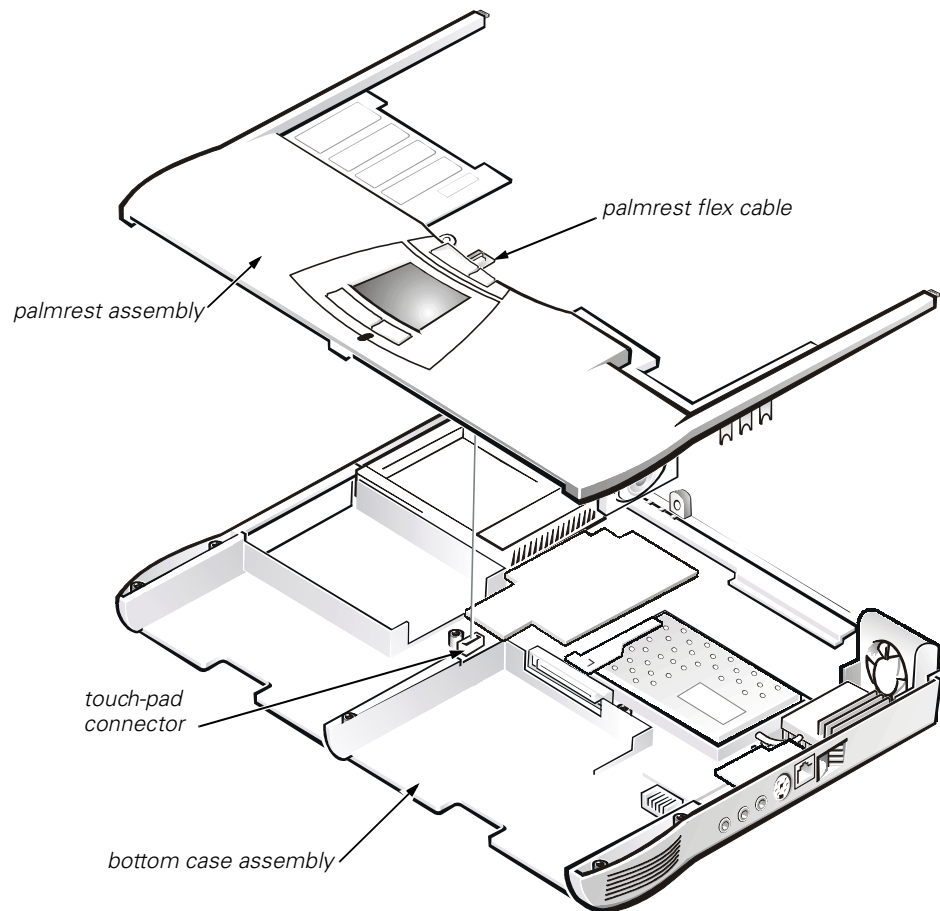

Figure 20. Palmrest Assembly Removal
8. Disconnect the palmrest flex cable from the touch-pad connector on the system board (see Figure 20).
9. Carefully remove the palmrest assembly from the bottom case assembly (see Figure 20).